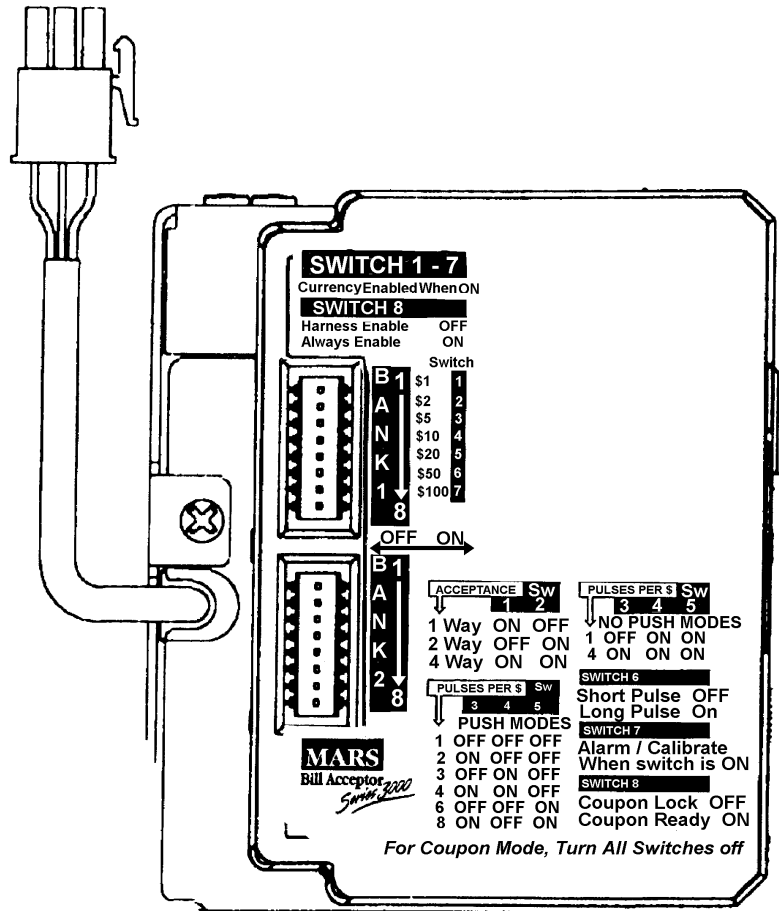

Figure 3. Setting The Option Switches
- Locate the option switches on the side of the bill acceptor (see figure 3).